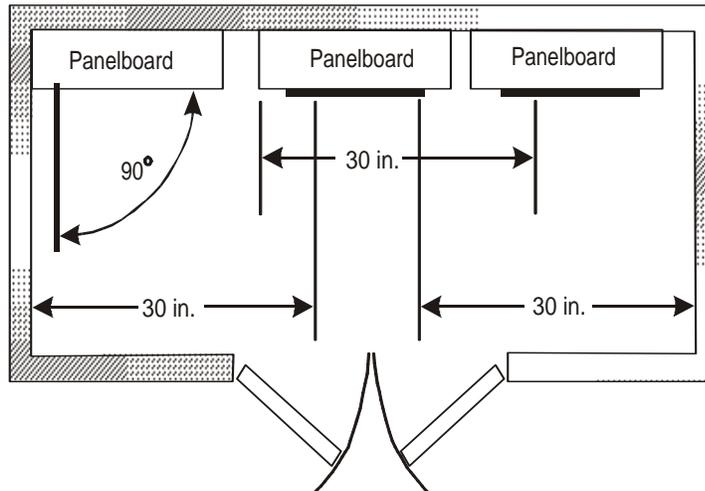

Figure 12-4.—Working space requirements for doors and hinged panels.
c. Doors and hinged panels. Doors and hinged panels must have at least a 90-degree opening. Keep working space clear at all times. Do not store parts, tools, and equipment in the clear space (see figure 12-4).